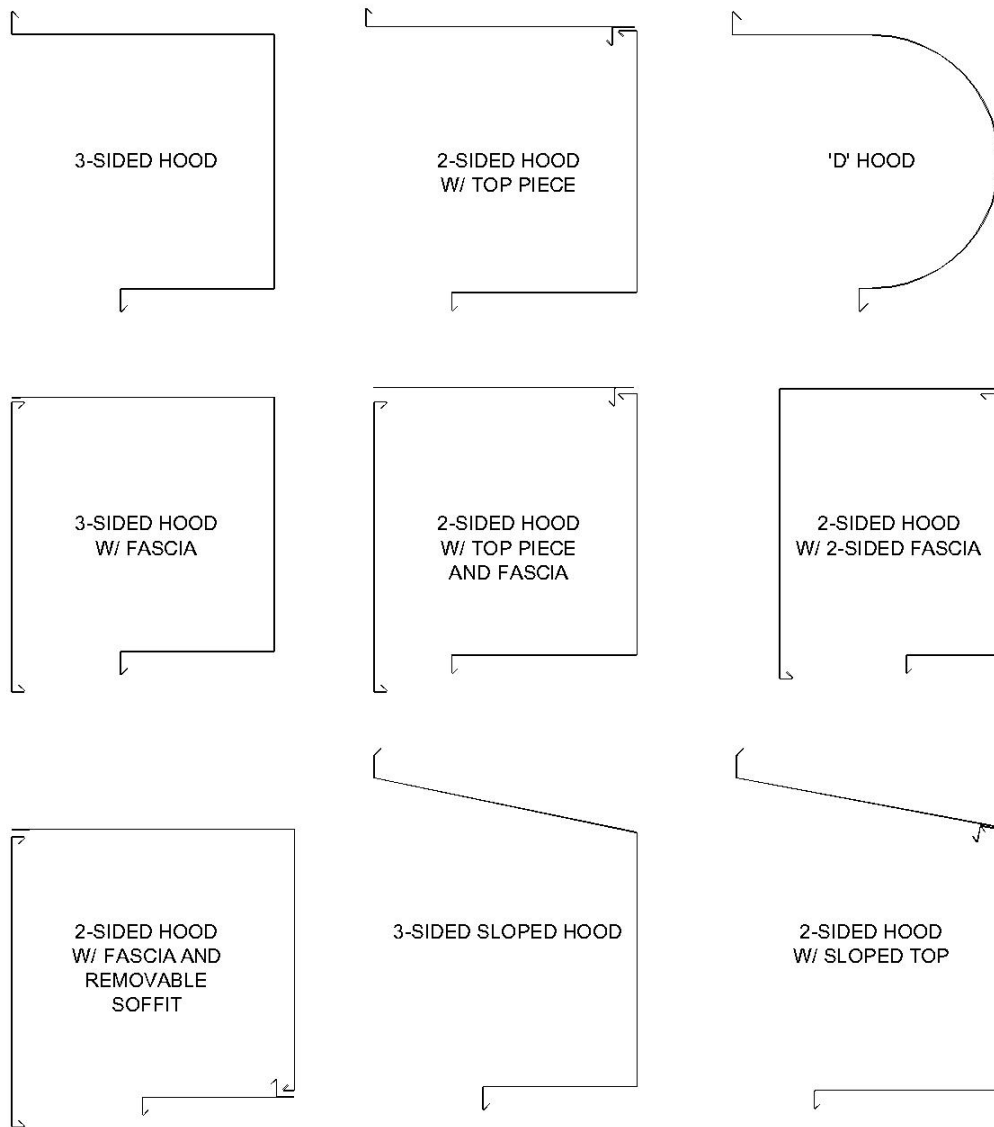

Figure 11.1 - Hood Configurations
2. If a square hood is provided, check the job construction drawings to see if it has multiple parts (such as a two sided hood with a removable soffit, two sided hood without a top piece, two sided hood with a sloped top, etc). See **Figure 11.1** for possible hood configurations.